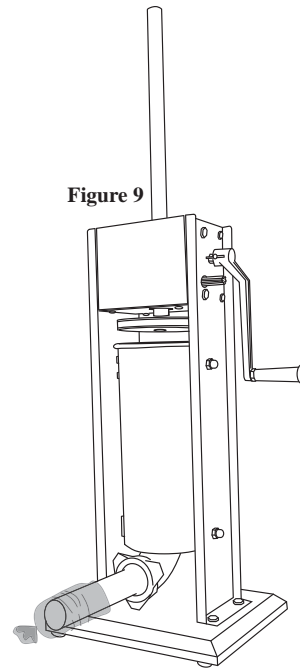

Figure 9
6. Slip a casing on the end of the **Stuffing Funnel** until the entire casing has slid onto the **Funnel** (Figure 9).